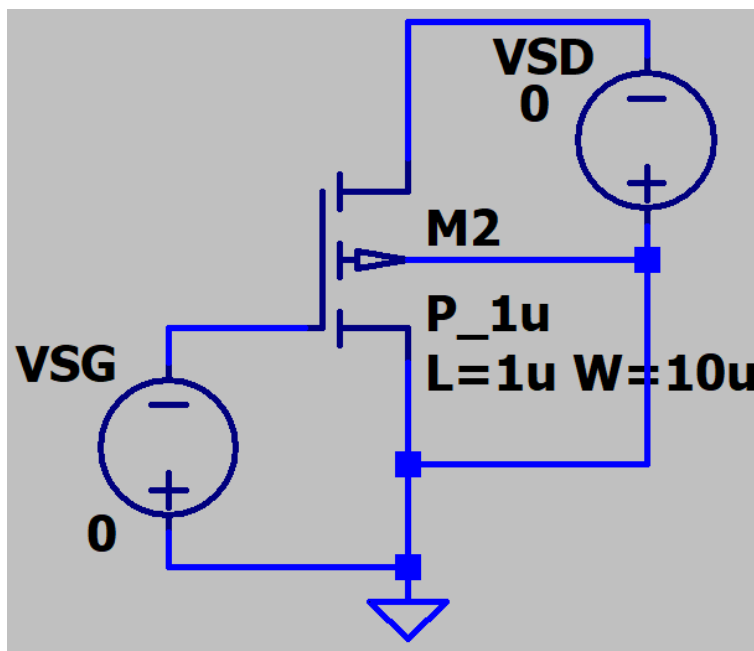
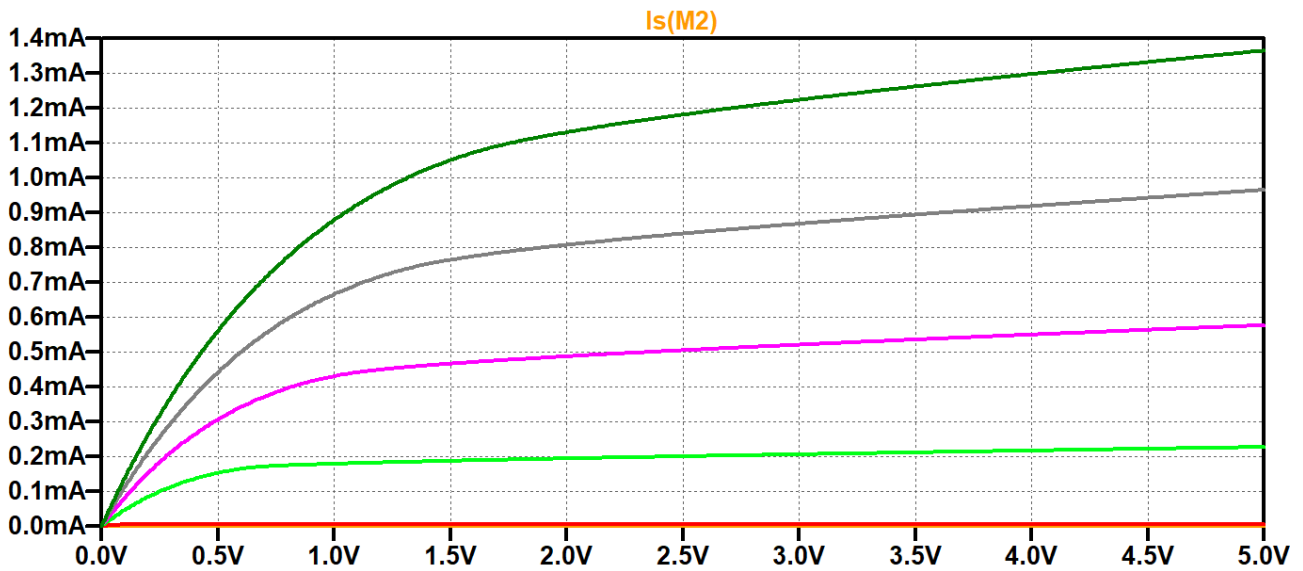

Fig. 10. P-MOSFET testbench
Fig. 14. P-MOSFET IV characteristics
Connect this circuit in Fig. 10 (this will be your testbench):
Plot the **source current (Is)**, your results must look exactly like the curves in Fig. 14.
2. Plot drain current (I_d) for the circuit in Fig. 10, how does it differ from the graph in Fig. 14?